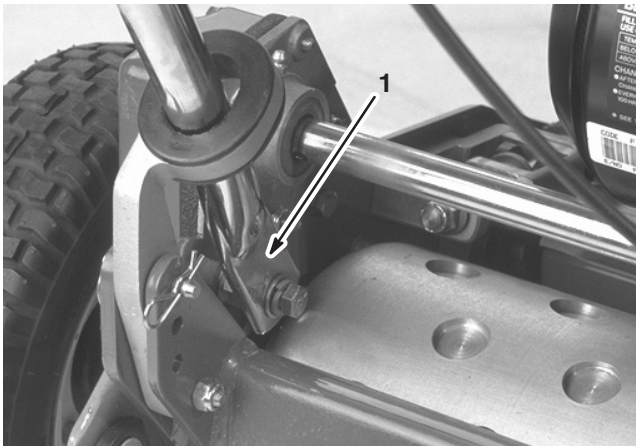

Figure 2
5. Squeeze the handle ends inward and install them on the mounting pins (Fig. 2).
6. Secure the handle ends to the mounting pins with the capscrews, washers, and lockwashers previously removed (Fig. 2).
7. Secure the bottom of handle arms to each side of the mower with the capscrews and locknuts previously removed (Fig. 2). Ensure that you install the bushings in the handle arm mounting holes.
8. Secure the handle arms to the rear of the frame with the hairpin cotters and ring pins previously removed (Fig. 2).